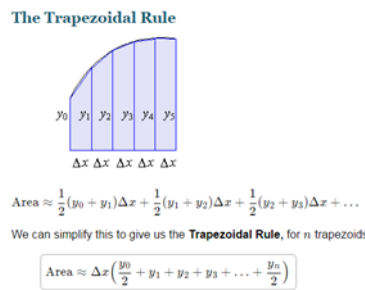

Figure 29 Trapezoidal Rule
- ii Evaluate total area below 0 volt by using Trapezoidal Method Area Calculation (refer to Figure 29)